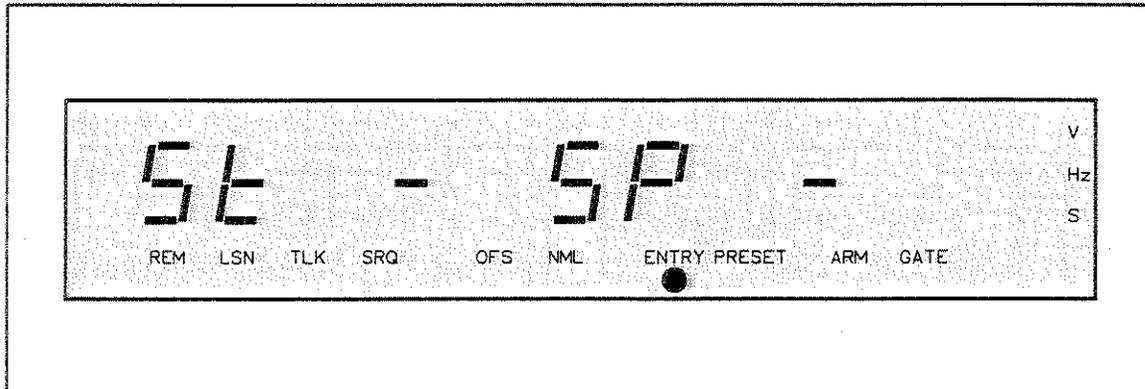
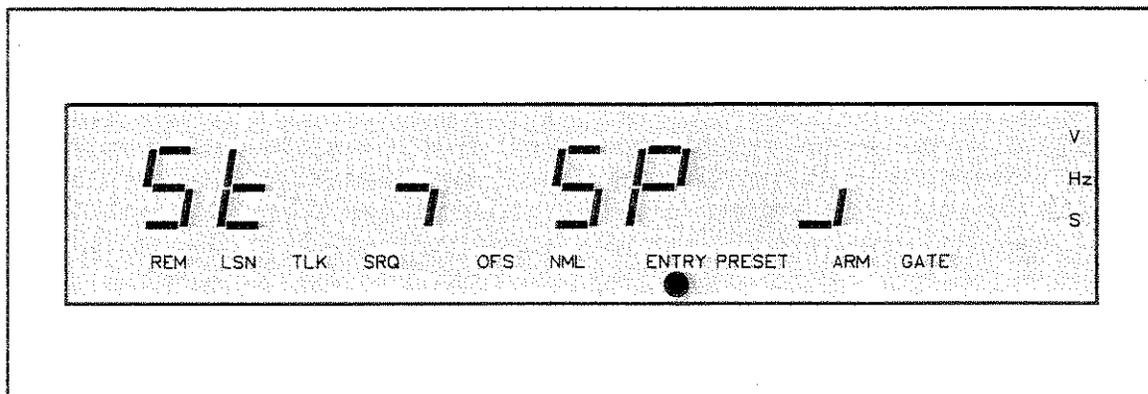

Figure 3-34. EXTERNAL ARM SELECT Entry Mode Display, Arming Off
Figure 3-35. EXTERNAL ARM SELECT Display, Arming States Selected
3-196. External arming can be used to specify the start and/or stop of a measurement, by a signal that is not directly involved in the measurement. When external arming is enabled, a signal must be connected to the ARM input connector to arm the gate to open and/or close. Pressing the EXT ARM SELECT key displays the arming status, shown in Figure 3-34, and allows the START ARM (open gate) and/or STOP ARM (close gate) states to be changed.
3-197. The arming status is represented as "St" (START ARM) and "SP" (STOP ARM). The states are defined by "—" (arming off), shown in Figure 3-34; and "∩" (arming set on negative slope), and "┘" (arming set on positive slope) as shown Figure 3-35 slope). The channel A SLOPE key controls the START ARM, and the channel B SLOPE key controls the STOP ARM.
2. The counter displays, “St” for start arm, “SP” for stop arm, and the current start/stop arm states (see *Figure 3-35*).
3. The ENTRY light flashes, indicating the arming states may be changed (see *Figure 3-35*).
Figure 3-35 shows the EXT ARM SELECT entry mode display, with the START ARM set negative, and the STOP ARM set positive.